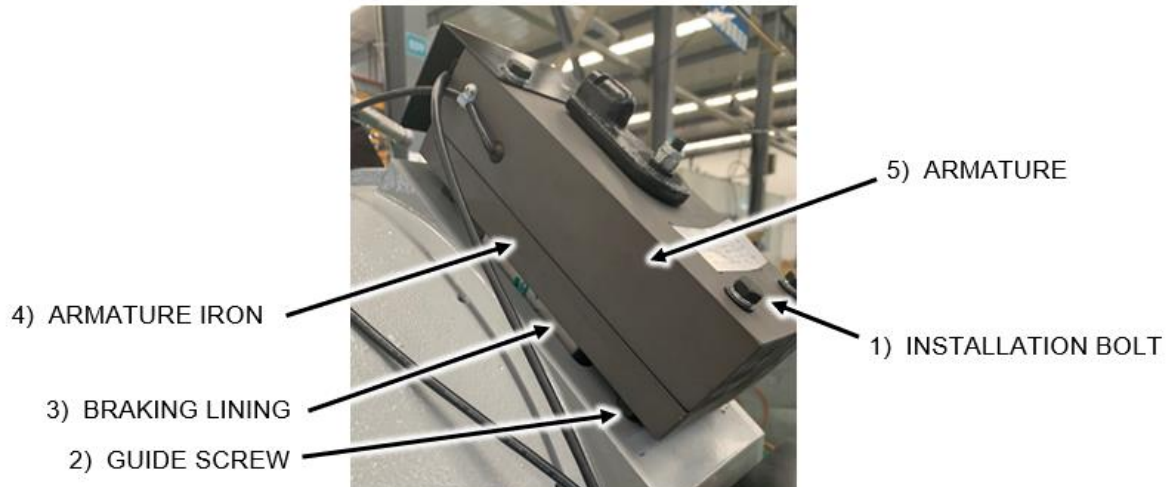

Figure 40
7. Adjust the guide screw sleeve of guide screw 2 and the mounting bolt of insulation bolt 1, so that the air gap between the armature of armature 5 and the armature of armature iron 4 is between 0.012" (0.30 mm) to 0.022" (0.55 mm), the gap between the brake belt and the brake wheel is 0.004" (0.10 mm) to 0.006" (0.15 mm), and the distance between the guide screw sleeve of guide screw 2 and the iron surface of armature iron 4 is about 0.197" (5 mm). no less than 0.118" (3 mm) under any conditions, as shown in Figure 40.